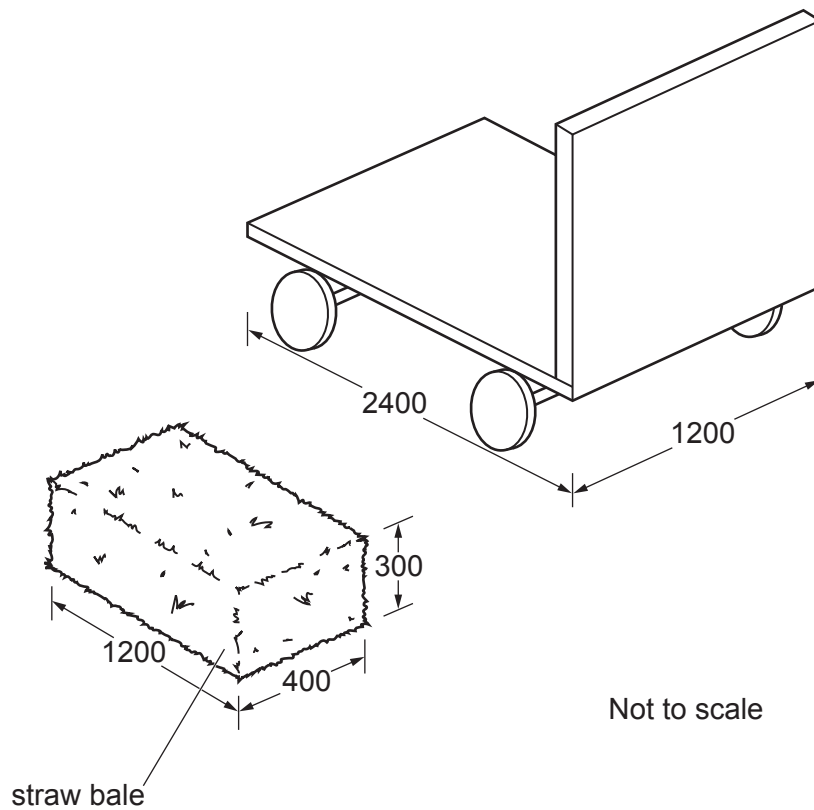

Fig. 8.1
- 8 Fig. 8.1 shows an incomplete idea for a trolley that is used for moving straw bales on a small farm.